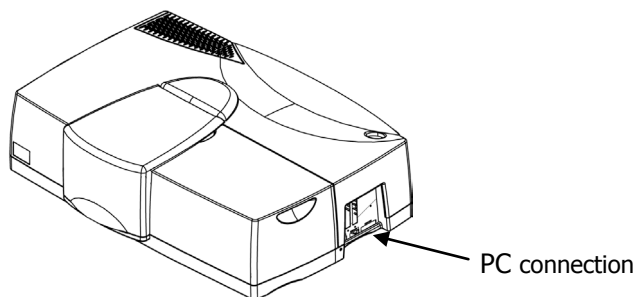

Figure 14 PC connection
- The PC is connected using the connection marked COMPUTER on the right side of the instrument, as shown in Figure 14.